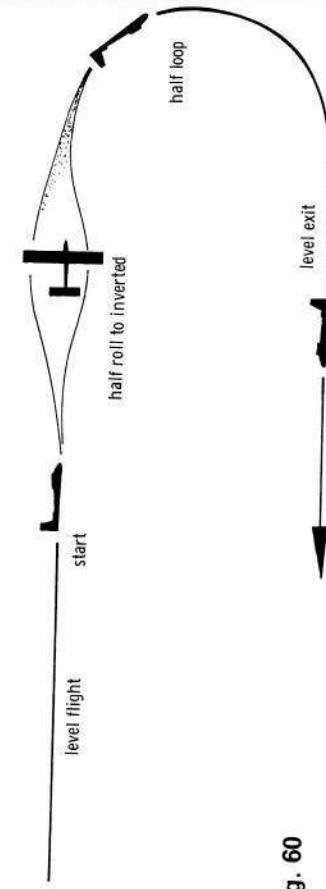

Fig. 60
**Reversal** Virtually an Immelman in reverse, (Fig. 60). From level flight, half-roll the model inverted, then pull it round in a half loop to resume level flight. This manoeuvre builds up considerable excess speed and is, therefore, a useful starting point from which to go into other manoeuvres when doing a series of them as a "pattern." It does have the disadvantage of having its exit considerably lower than its entry, of course.
Virtually an Immelman in reverse, (Fig. 60). From level flight, half-roll the model inverted, then pull it round in a half loop to resume level flight. This manoeuvre builds up considerable excess speed and is, therefore, a useful starting point from which to go into other manoeuvres when doing a series of them as a "pattern." It does have the disadvantage of having its exit considerably lower than its entry, of course.